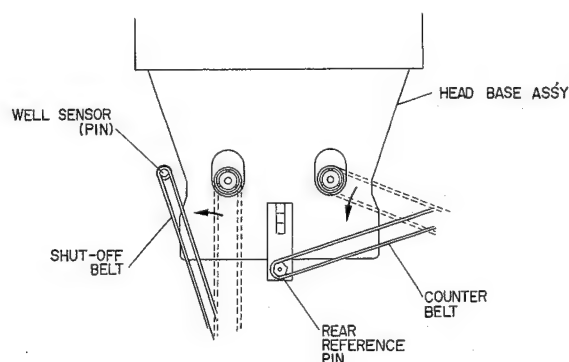

Fig. 5.3 Ball Drive Mechanism Ass'y Replacement
- (1) Refer to Fig. 5.3. After removing the cabinet assembly, remove the counter belt and shut-off belt from the reel hub and hang them on the studs.
- (2) Remove flywheel holder, capstan belt and two sets of flywheel assembly (including washer, flange thrust stud and thrust spring). (When mounting the flywheel holder, use care to attach it in the correct direction to